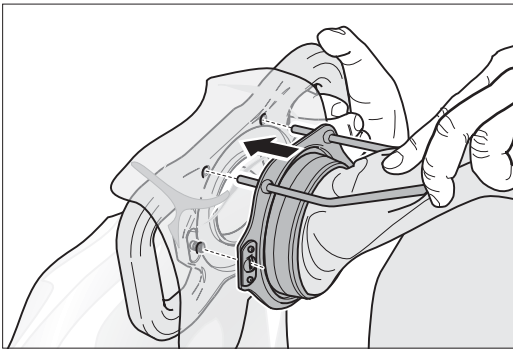

Fig. 18 Insert the dust bag.
- 10 Insert the dust bag into the emptying fixture. Make sure the rods are in the correct position. The pins have to fit into the openings provided (Fig. 18).
- 11 Apply light pressure to insert the dust bag completely into the emptying fixture. The pins on the dust bag rods pierce the waste bag and prevent it slipping (Fig. 18).